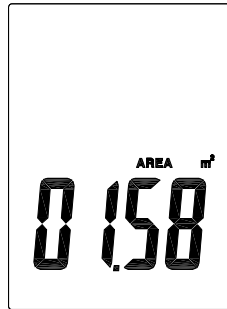

Fig.3
3. Press  or  to scroll to unit that you want to change((refer Fig.3).).
that you want to change (refer Fig.3). Press  t,